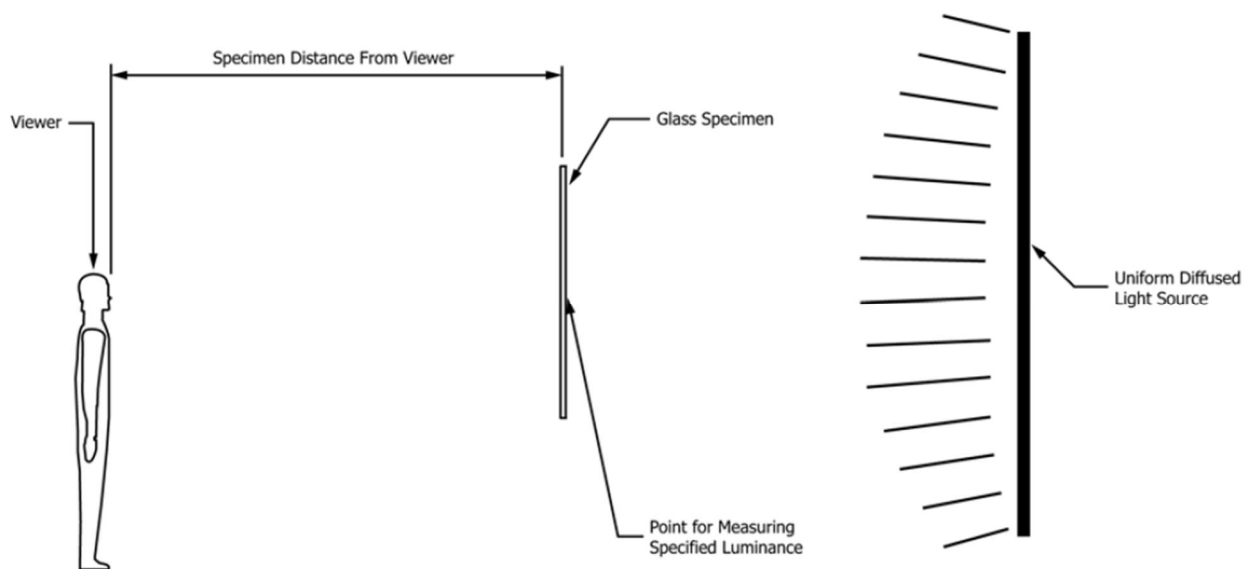

FIG. 1 Viewing Conditions for Blemish Detection
(FIGURE 1) Viewing Conditions for Blemish Detection 2
INSTRUCTIONS FOR FIGURE 1 VIEWING CONDITIONS FOR BLEMISH DETECTION:
- As you use the FIGURE 1 inspection criteria, begin viewing at the maximum specified viewing distance for the product and applicable blemish. Progress sequentially to each of the shorter distances noted (if applicable).
(FIGURE 1) Viewing Conditions for Blemish Detection
- To determine linear blemish intensity, start inspection at **10'** per viewing conditions described in FIGURE 1
- Inspect for point blemishes at **3'** per viewing conditions described in FIGURE 1. All point blemishes not readily apparent at this distance are allowed
- Edge chips: not allowed if visible from **3'** when viewed per FIG. 1
- Corner chips: not allowed if visible from **5'** when viewed per FIG. 1
- Polish or grind marks: not allowed if visible from **5'** when viewed per FIG. 1